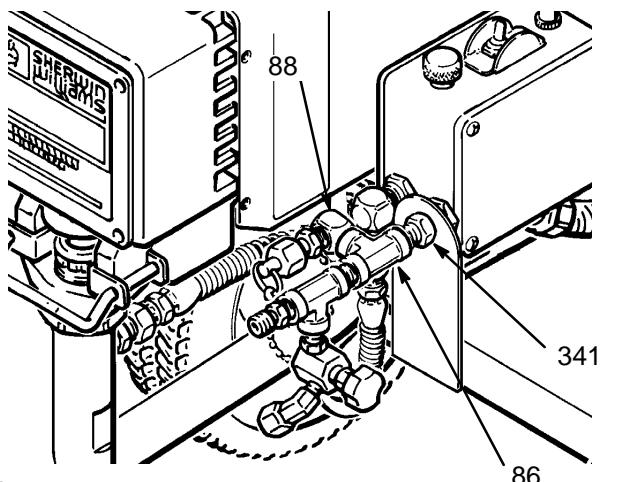

Fig 28–1
2. Refer to the above list of tools and equipment needed. Remove the elbow (88). Holding the nipple (341) firmly with a wrench to prevent it from turning, rotate the tee (85) up. Install the fluid-filled pressure gauge in the tee. See Fig 28–1. Connect the gun to the **new** test hose and connect the hose to the sprayer outlet.